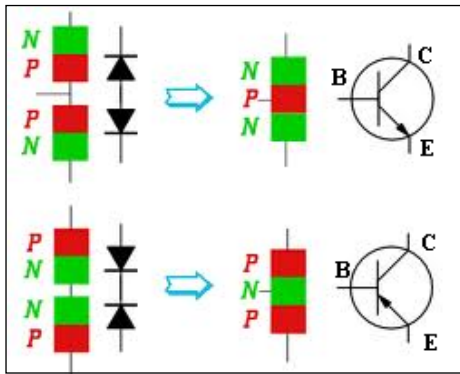
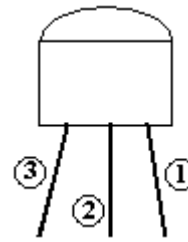

Figure 6.1
Figure 6.2
Figure 6.1 shows the electrical symbol of pnp and npn transistors and figure 6.2 shows a physical transistor. Follow the next steps to find the type of the transistor (npn or pnp) and assign its terminals (base 'B', collector 'C' and emitter 'E').
2. Label the terminal of the transistor as in figure 6.2.